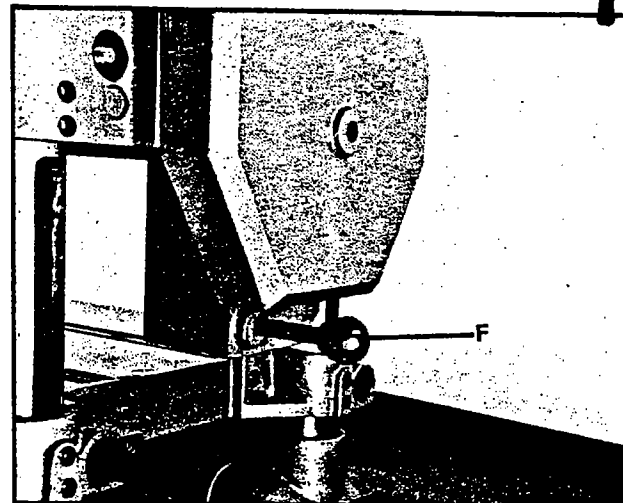

Fig. 18
To engage the feed rolls, pull out lever (F) Fig. 18. To disengage the feed rolls push in on lever (F).